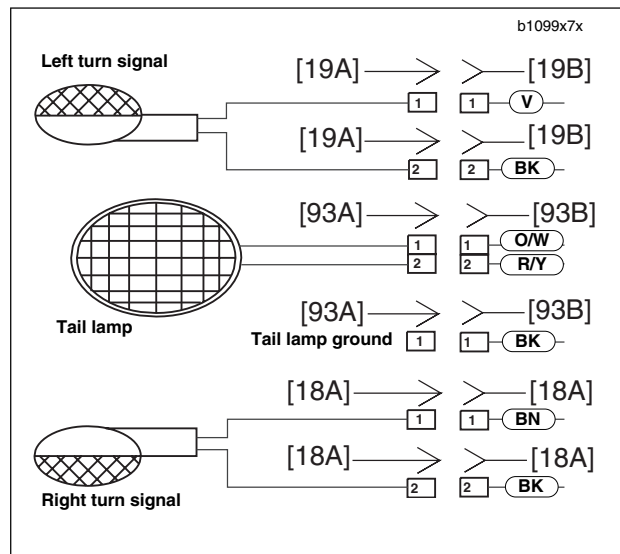

Figure 7-54. Rear Turn Signal Connections
2. See Figure 7-54. Disconnect bullet connectors [18] & [19] on turn signal wires.